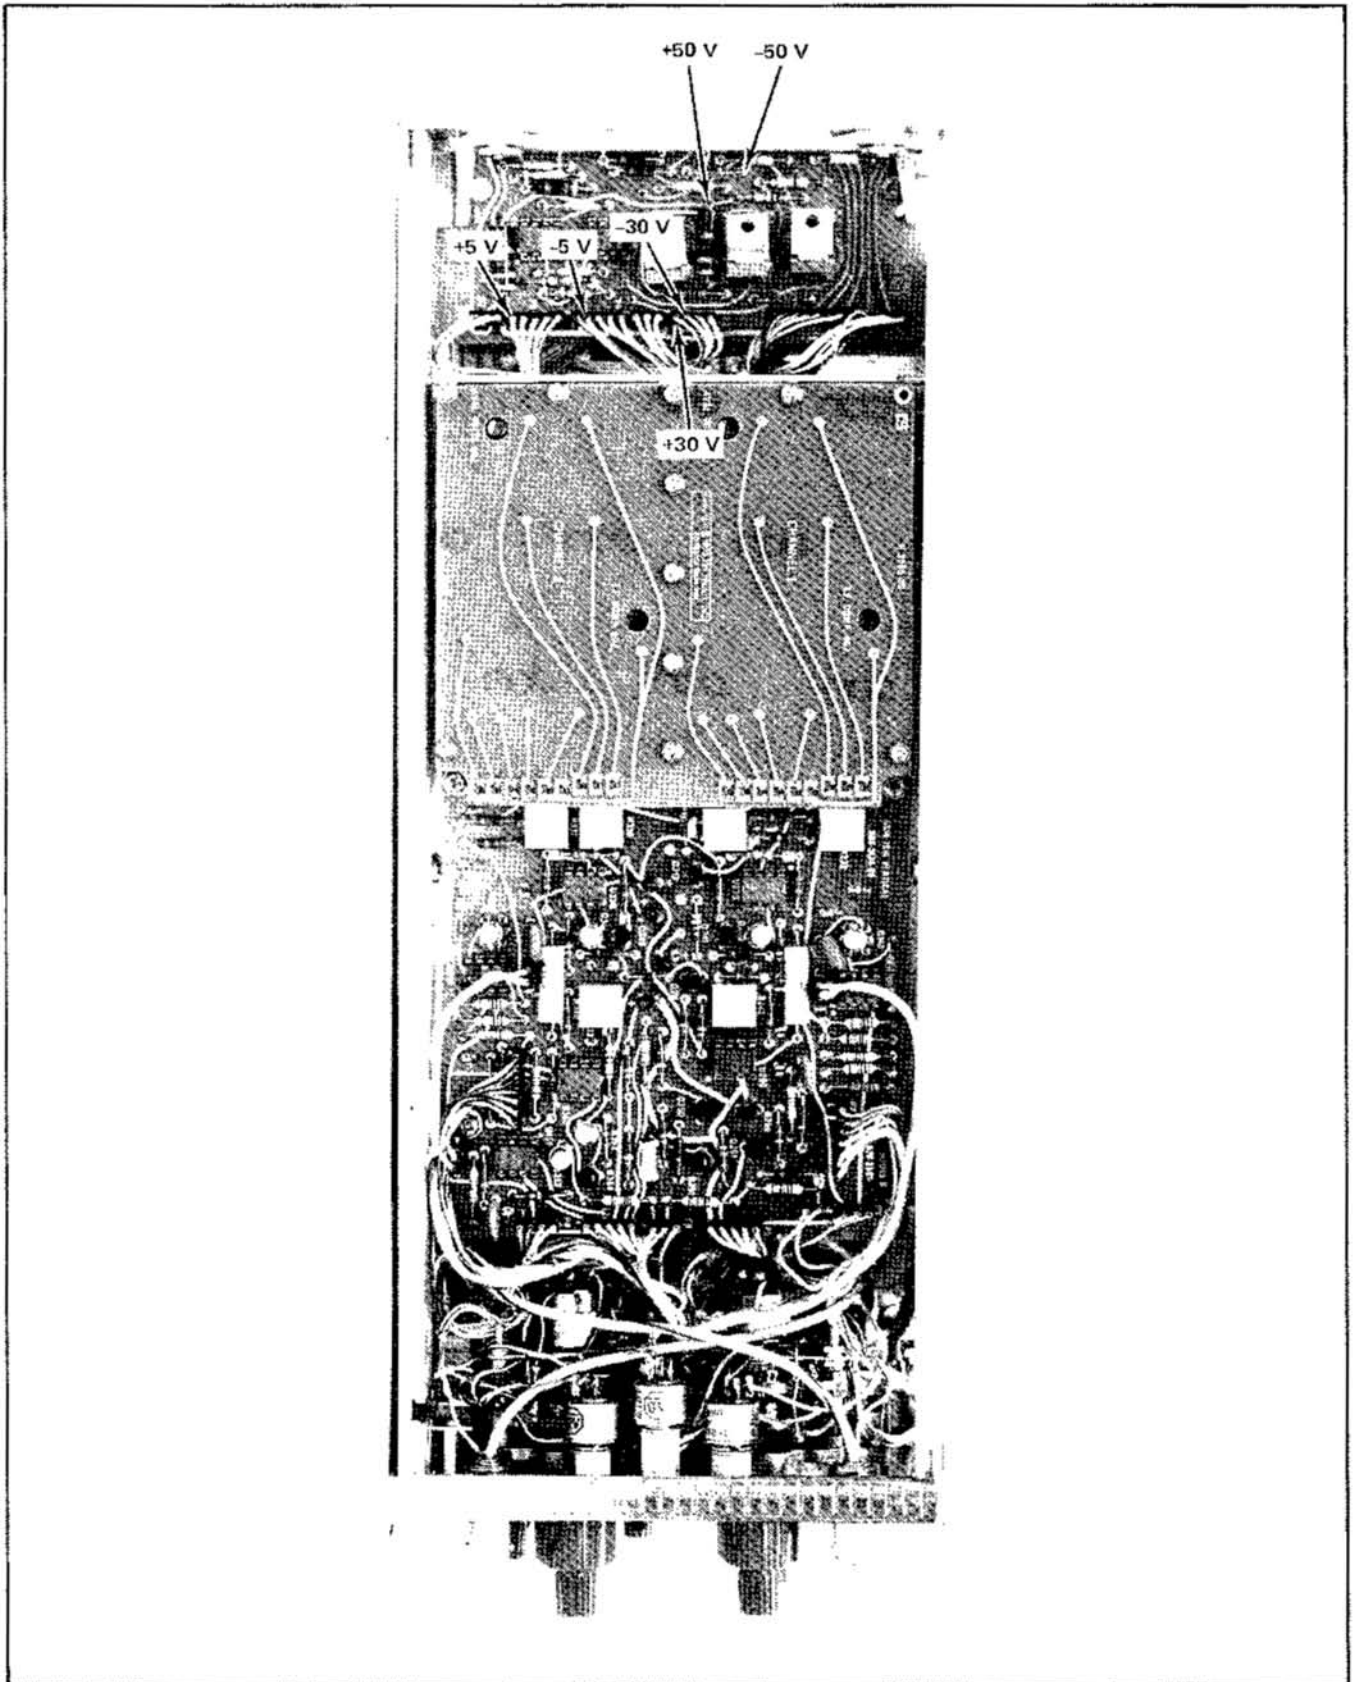

Fig. 7-1. Power Supply Test Points.
The power supply voltages in the 7S14 should be checked before any internal adjustments are made. However, do not check the supply voltages unless you expect to be making internal adjustments. Power supply checks are not to be considered performance checks. The location of the test points are shown on Fig. 7-1. Measure the supply voltages with the 7A13 and a 1X probe or some accurate DC Voltmeter.
The +50 V, -50 V, and +5 V supplies from the mainframe should be within $\pm 3\%$ of their nominal values when measured at the points of the 7S14 as indicated on Fig. 7-1. If the supplies are not within $\pm 3\%$, mainframe repair or adjustment is needed.
- b. Connect the 1X probe to the +50 V test point shown on Fig. 7-1 (resistor R615).
- d. Push the - polarity button, attach the probe to the -50 V test point shown on Fig. 7-1 (diode VR613), and check the -50 volt supply in the same manner as the +50 volt supply. Make note of the actual value for use in steps f and k.
- e. Connect the 1X probe to the -30 V test point shown on Fig. 7-1 (Pin 3-2) and set the 7A13 COMPARISON VOLTAGE controls to 30.00.
- g. Push the + polarity button, attach the probe to the +30 V test point shown on Fig. 7-1 (Pin 3-1) and check the +30 volt supply in the same manner as the -30 volt supply. The value must be within 1% of 0.6 the value of the +50 volt supply.
- h. Connect the 1X probe to the +5 V test point shown on Fig. 7-1 (Pin 6-1) and set the COMPARISON VOLTAGE controls to 05.00.
- j. Push the - polarity button and attach the probe to the -5 V test point shown on Fig. 7-1 (Pin 5-2).